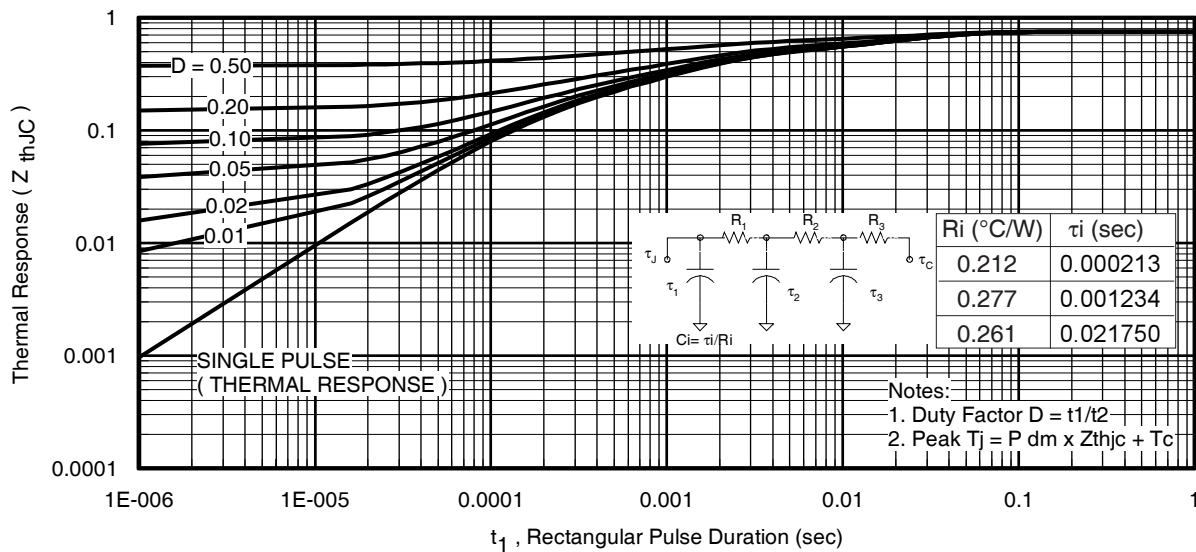

Fig 11. Maximum Effective Transient Thermal Impedance, Junction-to-Case
- ① Repetitive rating; pulse width limited by max. junction temperature. (See fig. 11).
- ② Limited by T_{Jmax}, starting T_J = 25°C, L = 0.066mH, R_G = 25Ω, I_{AS} = 75A, V_{GS} = 10V. Part not recommended for use above this value.
- ③ Pulse width ≤ 1.0ms; duty cycle ≤ 2%.
- ④ C_{oss eff.} is a fixed capacitance that gives the same charging time as C_{oss} while V_{DS} is rising from 0 to 80% V_{DSS}.
$Z_{thJC}(D, t_{av})$ = Transient thermal resistance, see figure 11)